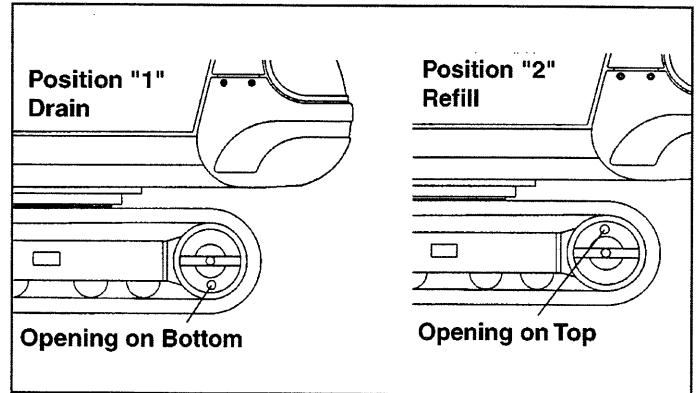

Figure 4-12 Changing Final Drive Oil
1. Position the machine on a level surface with final drive plug positioned on the bottom as shown in POSITION 1, Figure 4-12. Turn off the engine.
3. Turn the engine on and move the machine slightly until plug is positioned on top as shown in POSITION 2, Figure 4-12. Turn off the engine.